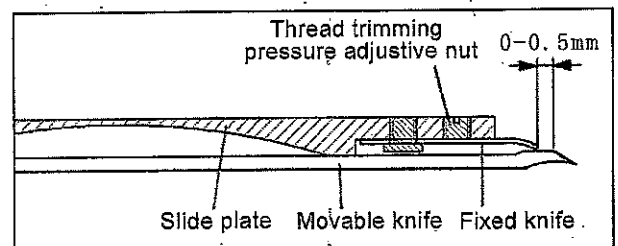

Fig.26
4) Adjustment of movable knife position (Fig.26)
5) Adjustment of pressure of movable knife and fixed knife (Fig.26)